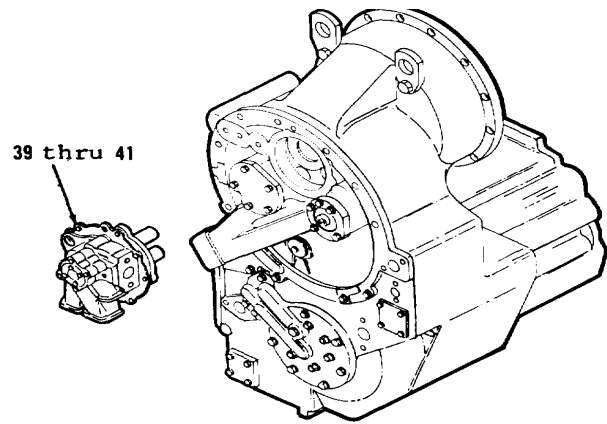

Figure 5-57.
13. Remove items 39 thru 41 as an assembly (Figure 5-57). Pull items 39 thru 41 as an assembly away from dowel on transmission and turn so it can be lowered out bottom of vehicle.